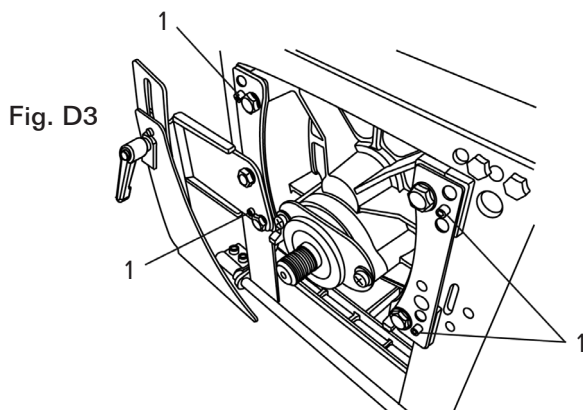

Fig. D3
BLADE RAISING AND TILTING MECHANISM (Fig. D3, E3)
3. Loosen or tighten the four hex screws (1) by hex wrench for smooth operation. Only 1/8 turn at a time. (Fig. D3)